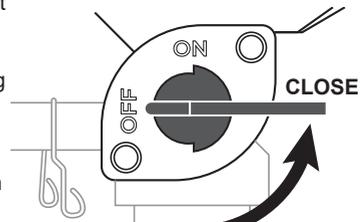

Fig. 7
4. Close the fuel valve (Fig. 7).